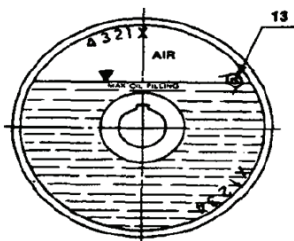

Figure 8
1. With the fluid coupling mounted in a horizontal plane, turn the coupling so the X mark which is cast into the housing is at the top (maximum filling) which will ensure the filler/level plug item 13, is in the correct angular position as shown in Figure 8.